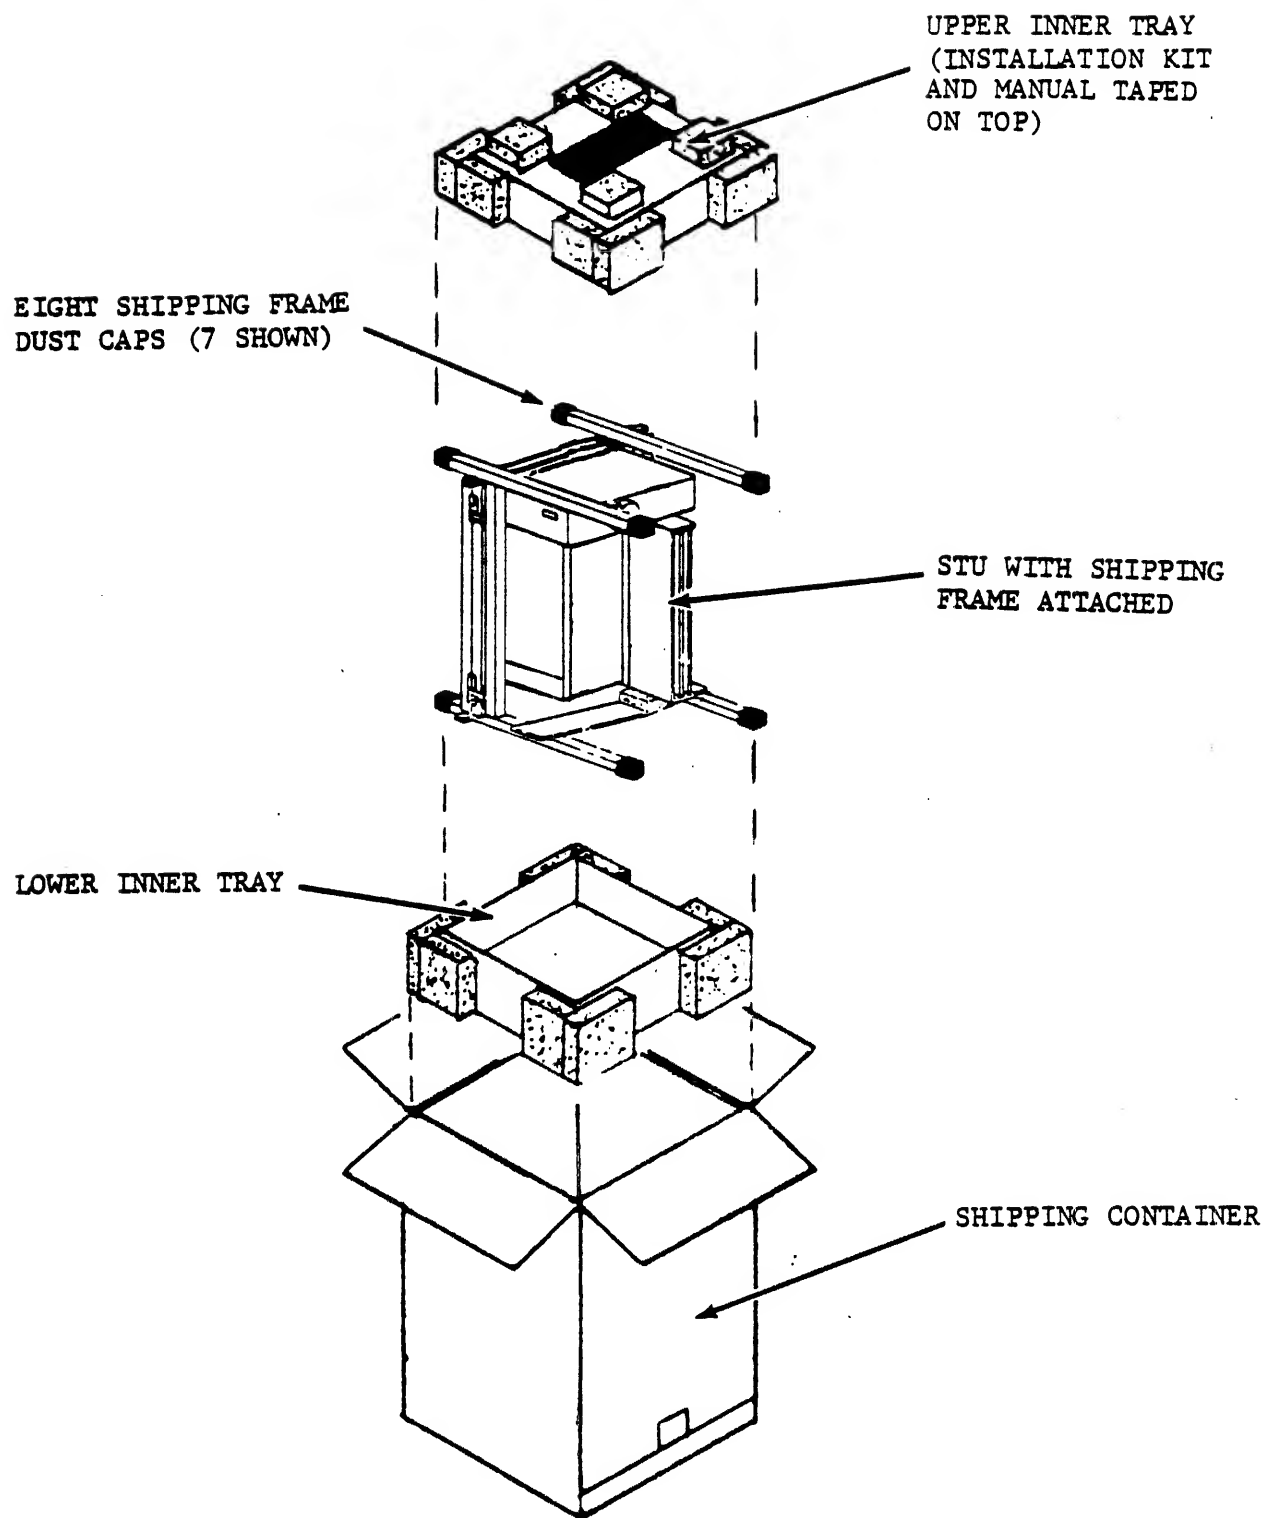

Figure 3-2. STU PACKAGING
Each STU, which is not delivered in a cabinet, is packed in a 500-pound tested, double-wall corrugated container, 23 inches by 24-1/2 inches by 31-1/2 inches high, with inner protective packaging as shown in Figure 3-2. The STU should be unpacked in the area or room where it will be installed and, because of the weight (approximately 117 pounds packaged), requires two people. Perform the unpacking as follows:
2. Remove STU and all protective packaging as follows: (See Figure 3-2)